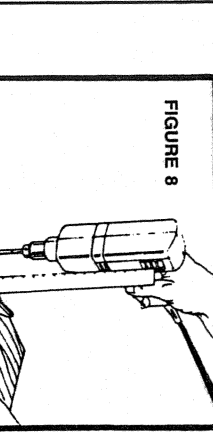

FIGURE 8
16. The sides of the drill are flat and parallel to the drill bit. To ensure straight drilling of holes, place a square along the side of the drill as a guide, as shown in **Figure 8**.